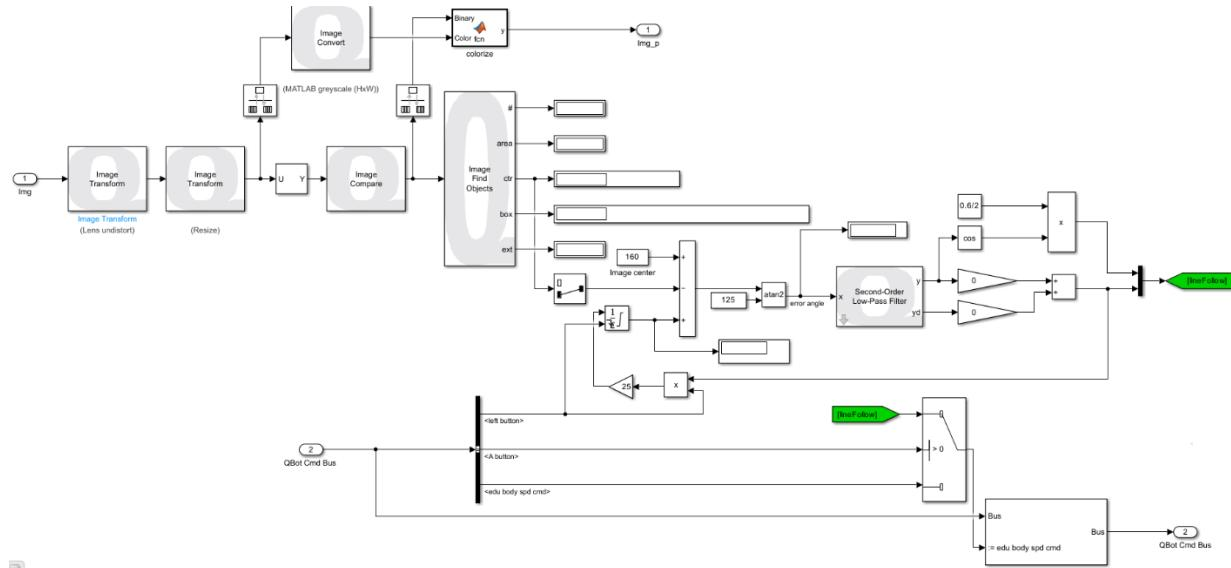

Figure 2. Image Processing Block
- In this lab you will be focusing on processing the information from the downward facing camera to allow the QBot to drive by itself. This will be done in the **Image Processing** subsystem. At the end of the lab, it should look like Figure 2.
7. Use your new Omega to compensate for curves when finding the center. The left button should reset values when needed. Use the completed subsystem from Figure 2 as a reference. What does this code do? Take notes.